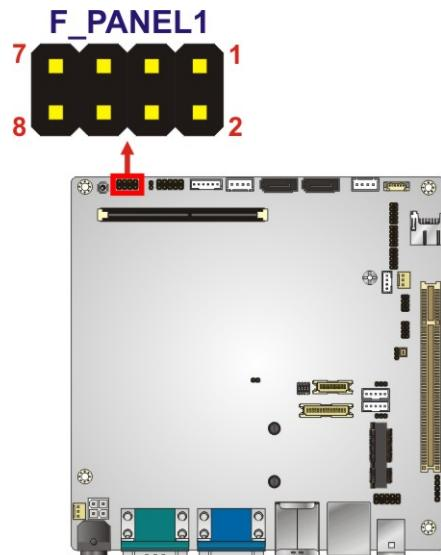

Figure 3-6: Front Panel Connector Location
**CN Location:** See Figure 3-6